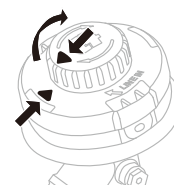

Fig. 8A
1. Align the arrow on the bump knob with the one on the spool cartridge. (Fig.8A)